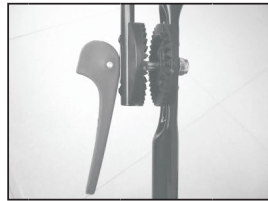

Fig.2C
2. Lift the two locking levers to release the upper handlebars for folding. (Fig.2C)